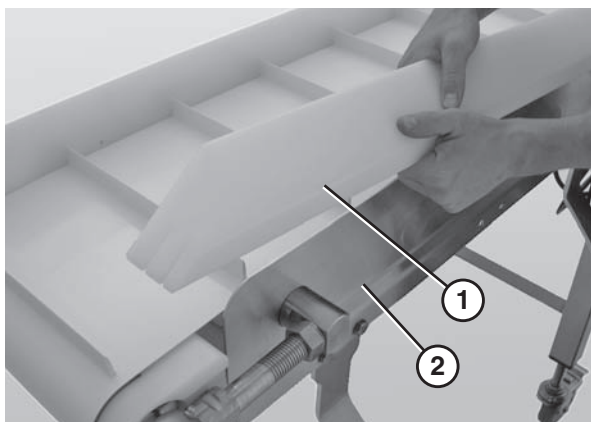

Figure 42
2. Remove the guide (**Figure 42, item 1**) from the conveyor (**Figure 42, item 2**).